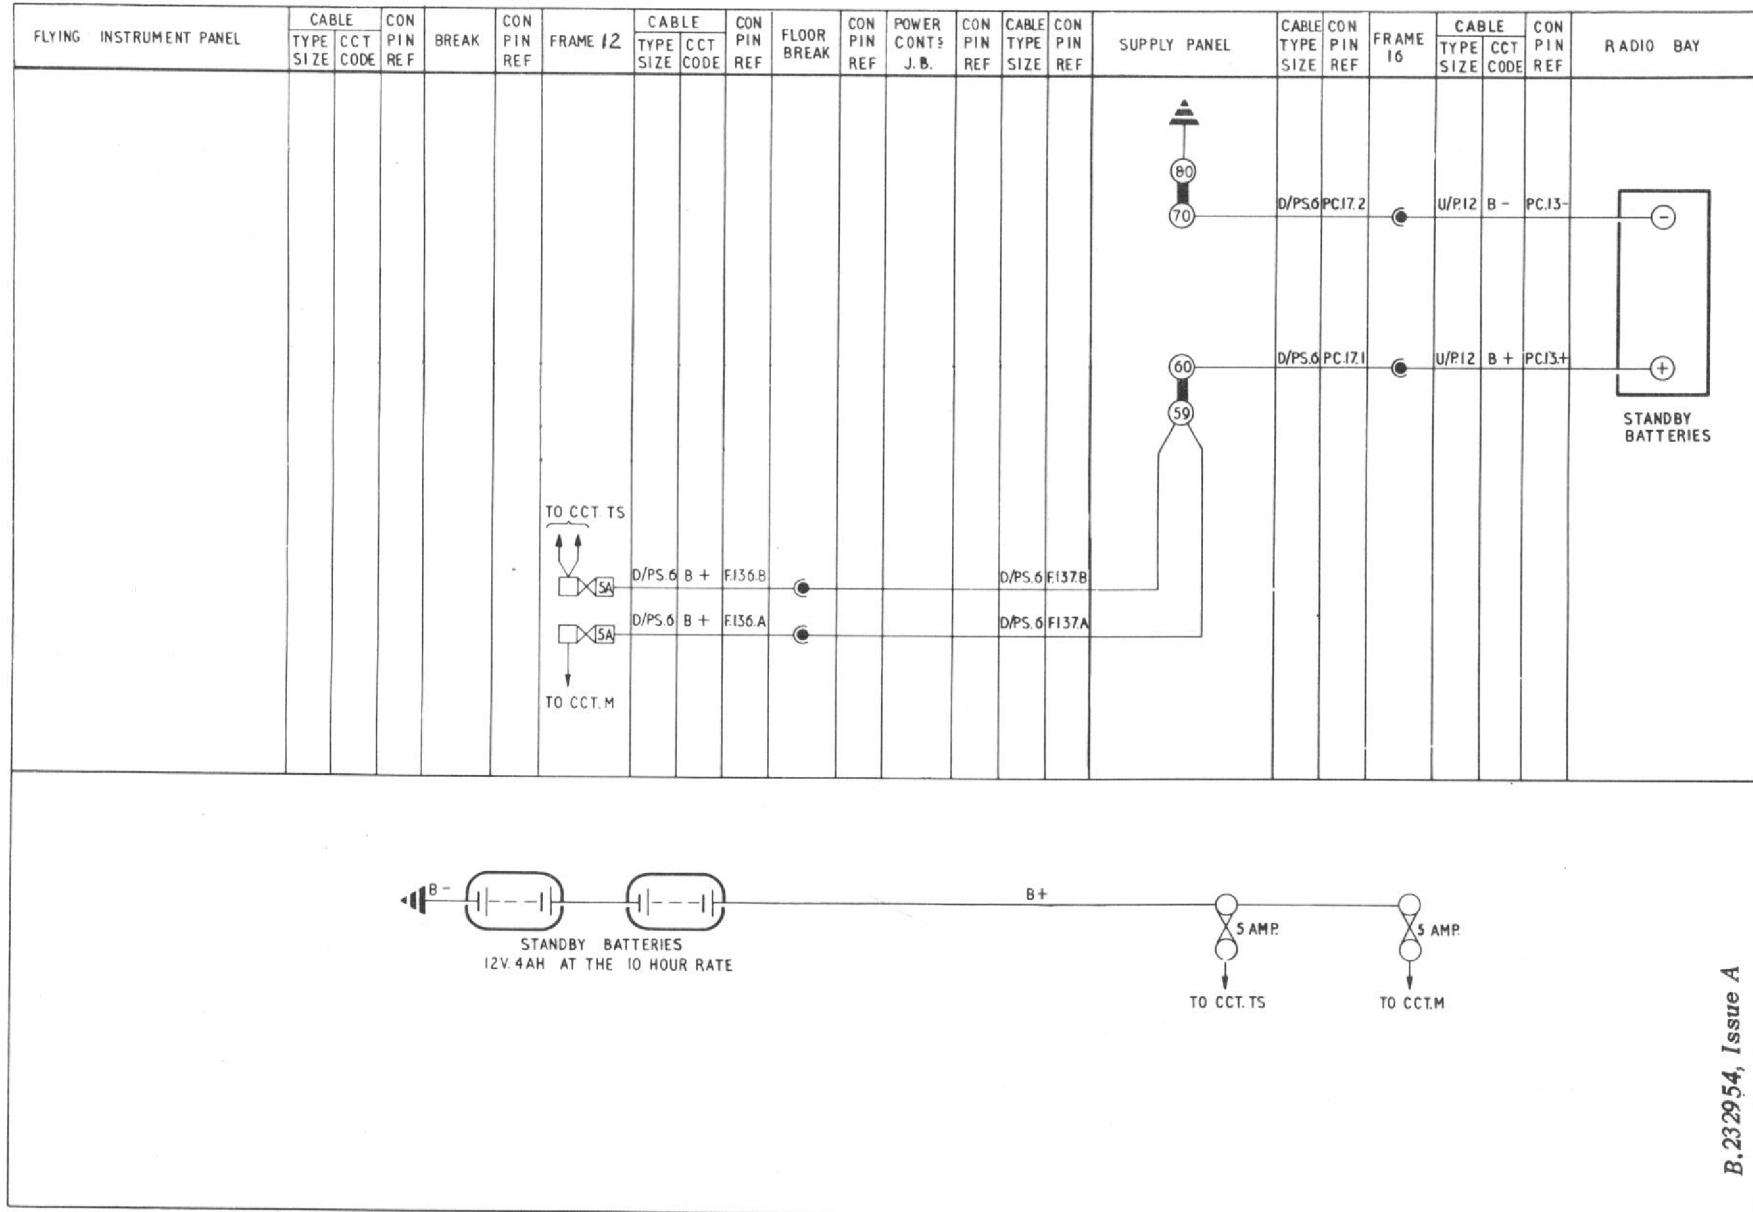

Fig. 3 B + distribution
16. The operation of the standby supply circuit (B+) will be obvious when reference is made to fig.3 of this group and to the routeing and theoretical diagrams contained in Group F.1. For information regarding the turn and slip indicator, reference should be made to Chapter 2, Group 3 of this section.